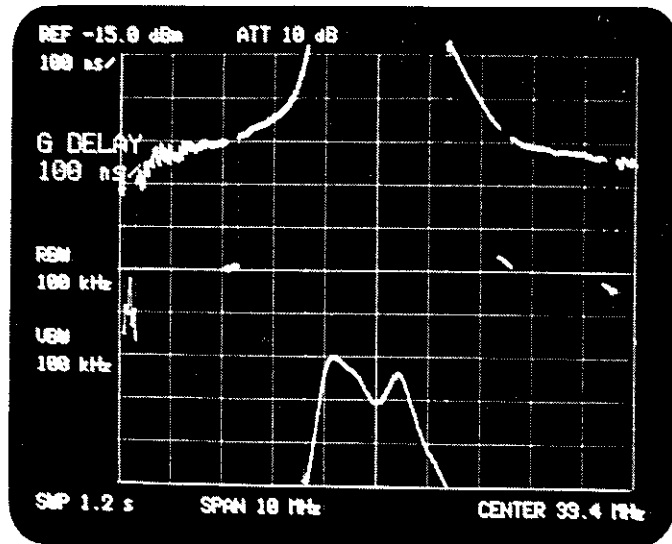

Fig. 7-7 Group Delay Observation
- (9) The group delay of the filter can be observed by pressing the GROUP DELAY key. (See Figure 7-7.)